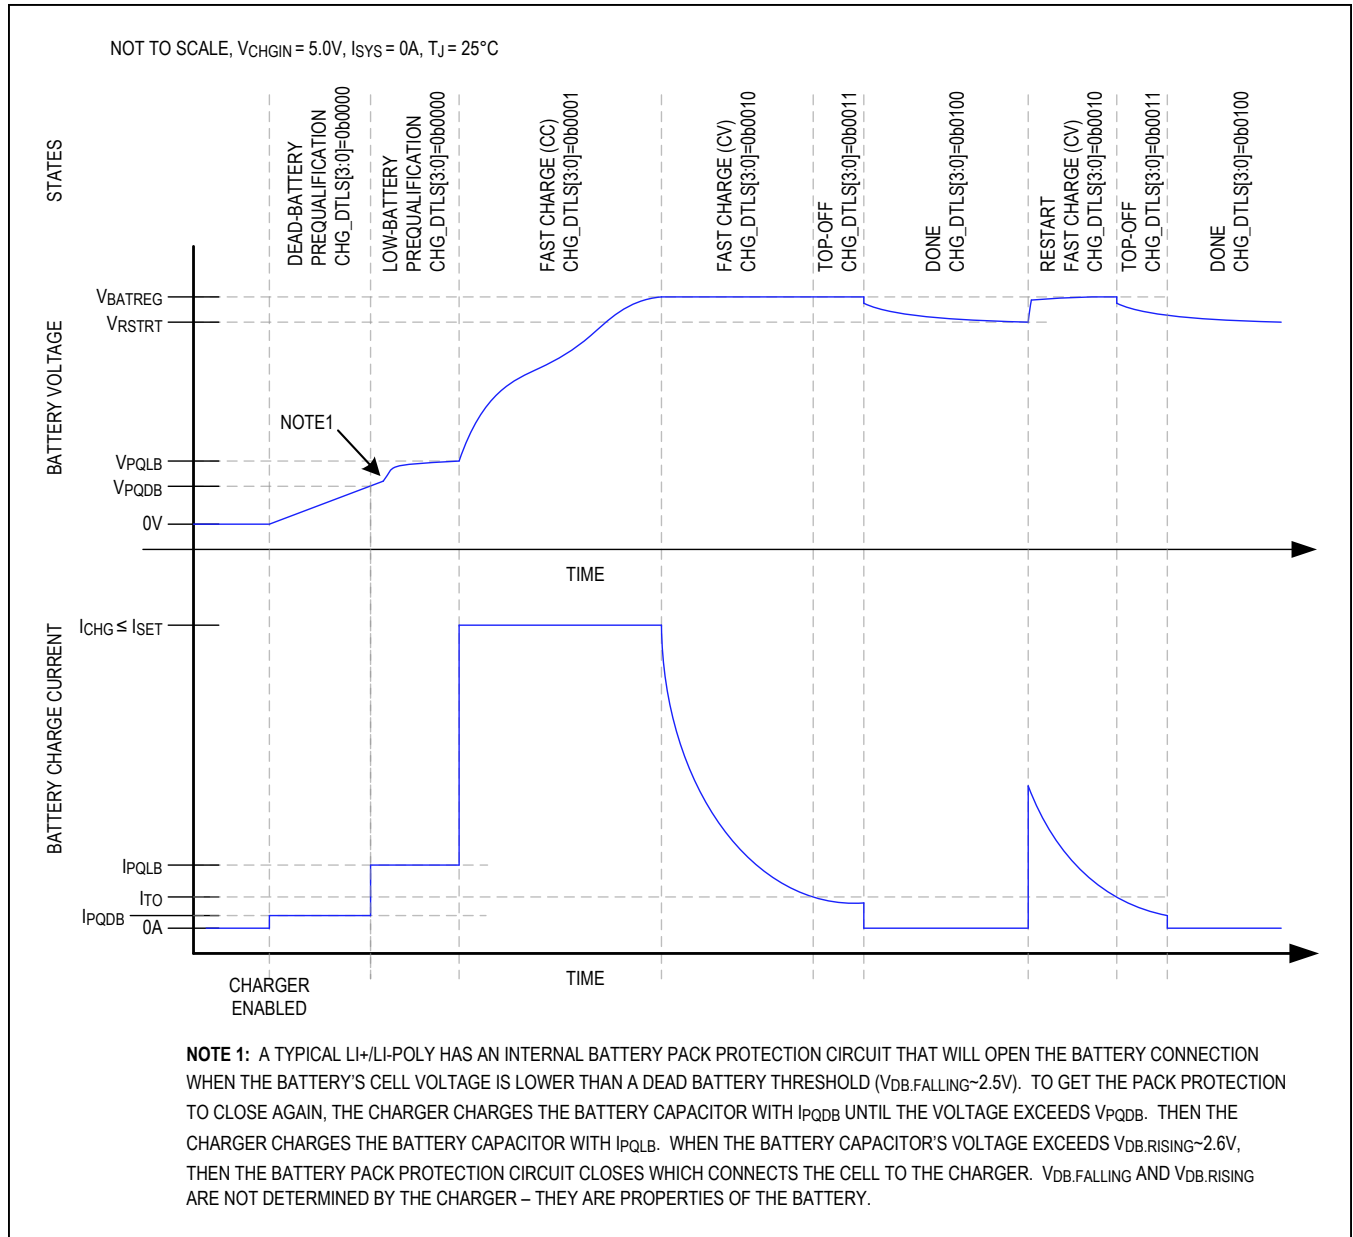
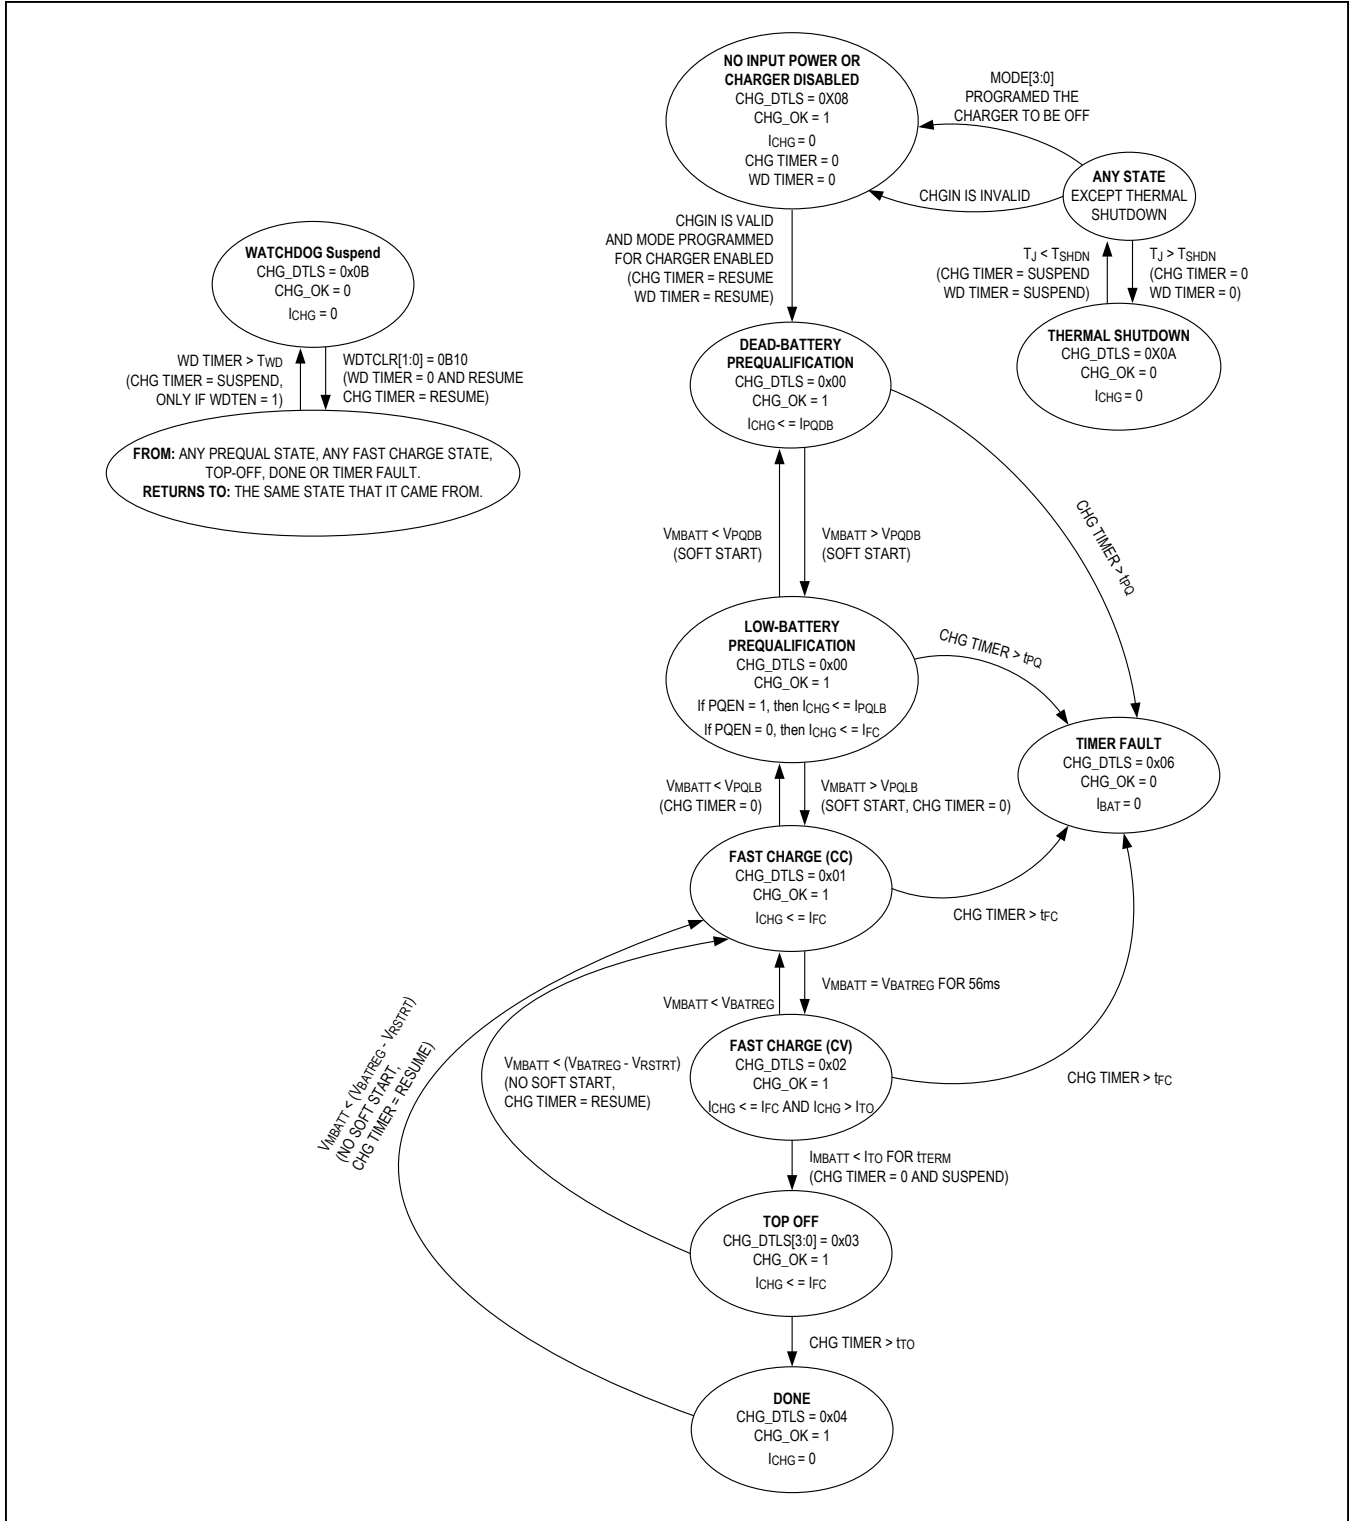

Figure 6. Li+/Li-Poly Charge Profile
Figure 7. Charger State Diagram
The MAX77818 utilizes several charging states to safely and quickly charge batteries as shown in Figure 6 and Figure 7. Figure 6 shows an exaggerated view of a Li+/Li-Poly battery progressing through the following charge states when there is not system load and the die and battery are close to room temperature: prequalification → fast-charge → top-off → done.
From any state shown in Figure 7 except thermal shutdown, the no input power or charger disabled state is entered whenever the charger is programmed to be off or the charger input CHGIN is invalid. After being in this state for t_{SCIDG} , a CHG_I interrupt is generated, CHG_OK is set and CHG_DTLS is set to 0x08.
As shown in Figure 7, the dead battery prequalification state occurs when the main battery voltage is less than V_{PQDB} . After being in this state for t_{SCIDG} , a CHG_I interrupt is generated, CHG_OK is set and CHG_DTLS is set to 0x00. In the dead battery prequalification state charge current into the battery is I_{PQDB} .
As shown in Figure 7, the fast-charge constant current (CC) state occurs when the main battery voltage is greater than the low battery prequalification threshold and less than the battery regulation threshold ($V_{PQLB} < V_{BATT} < V_{BATREG}$). After being in the fast-charge CC state for t_{SCIDG} , a CHG_I interrupt is generated, CHG_OK is set and CHG_DTLS = 0x01.
As shown in Figure 7, the fast-charge constant voltage (CV) state occurs when the battery voltage rises to V_{BATREG} from the fast-charge CC state. After being in the fast-charge CV state for t_{SCIDG} , a CHG_I interrupt is generated, CHG_OK is set and CHG_DTLS = 0x02.
In the fast-charge CV state the battery charger maintains V_{BATREG} across the battery and the charge current is less than or equal to I_{FC} . As shown in Figure 6, charger current decreases exponentially in this state as the battery becomes fully charged.
As shown in Figure 7, the top-off state can only be entered from the fast-charge CV state when the charger current decreases below I_{TO} for t_{TERM} . After being in the top-off state for t_{SCIDG} , a CHG_I interrupt is generated, CHG_OK is set and $CHG_DTLS = 0x03$. In the top-off state the battery charger tries to maintain V_{BATREG} across the battery and typically the charge current is less than or equal to I_{TO} .
As shown in Figure 7, the battery charger enters its done state after the charger has been in the top-off state for t_{TO} . After being in this state for t_{SCIDG} , a CHG_I interrupt is generated, CHG_OK is cleared and $CHG_DTLS = 0x04$.
The battery charger provides both a charge timer and a watchdog timer to ensure safe charging. As shown in Figure 7, the charge timer prevents the battery from charging indefinitely. The time that the charger is allowed to remain in its each of its prequalification states is t_{PQ} . The time that the charger is allowed to remain in the fast-charge CC and CV states is t_{FC} which is programmable with $FCHGTIME$. Finally, the time that the charger is in the top-off state is t_{TO} , which is programmable with TO_TIME . Upon entering the timer fault state a CHG_I interrupt is generated without a delay, CHG_OK is cleared and $CHG_DTLS = 0x06$.
In the timer fault state the charger is off. The charger can exit the timer fault state by programming the charger to be off and then programming it to be on again through the $MODE$ bits. Alternatively, the charger input can be removed and reinserted to exit the timer fault state. See the any state bubble in the upper right of Figure 7.
The battery charger provides both a charge timer and a watchdog timer to ensure safe charging. As shown in Figure 7, the watchdog timer protects the battery from charging indefinitely in the event that the host hangs or otherwise cannot communicate correctly. The watchdog timer is disabled by default with $WDTEN = 0$. To use
As shown in Figure 7, the thermal shutdown state occurs when the battery charger is in any state and the junction temperature (T_J) exceeds the device's thermal shutdown threshold (T_{SHDN}). When T_J is close to T_{SHDN} , the charger has folded back the input current limit to 0A so the charger and inputs are effectively off. Upon entering this state, CHG_I interrupt is generated without a delay, CHG_OK is cleared, and CHG_DTLS = 0x0A.